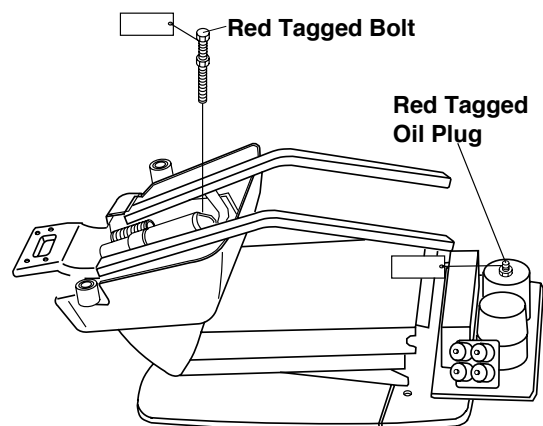

Fig.3-4-3 Removing Red Tagged Bolt
- (5) Remove the red tagged bolt (carriage bolt) from the centre of chair flange. (**Fig.3-4-3**)
- (6) Remove the red tagged oil plug from the oil reservoir. (**Fig.3-4-3**)